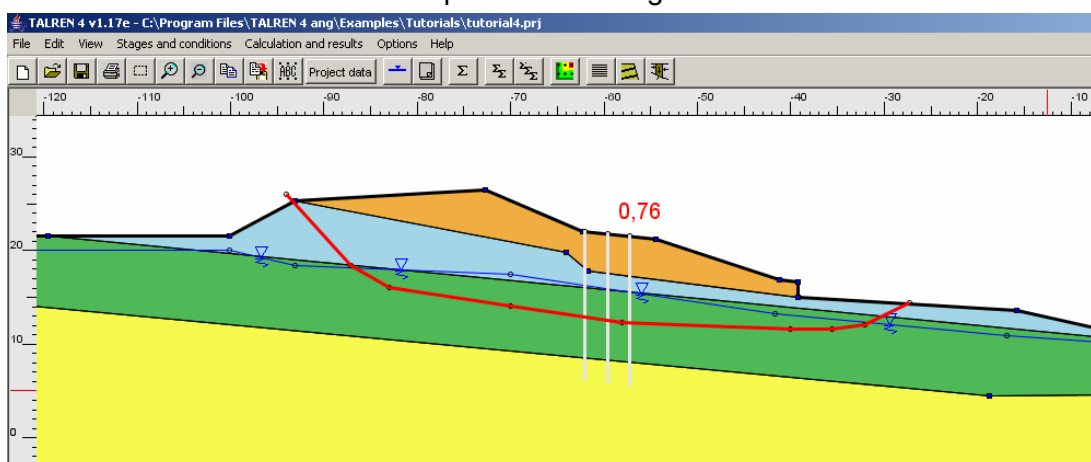

Figure 92: default output for situation 3 of stage 1
- Calculate situation 3. The result is presented on Figure 92.